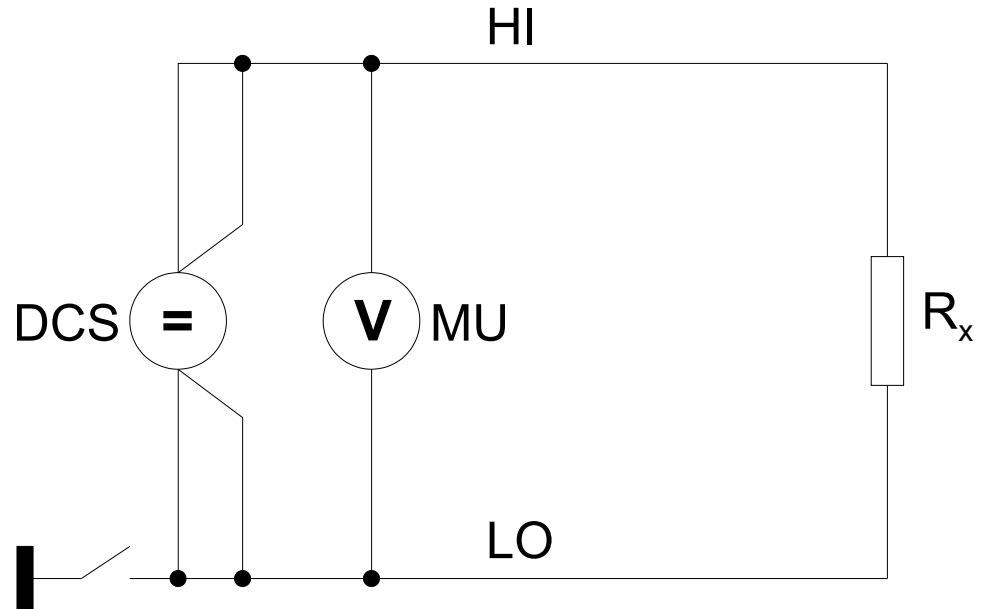
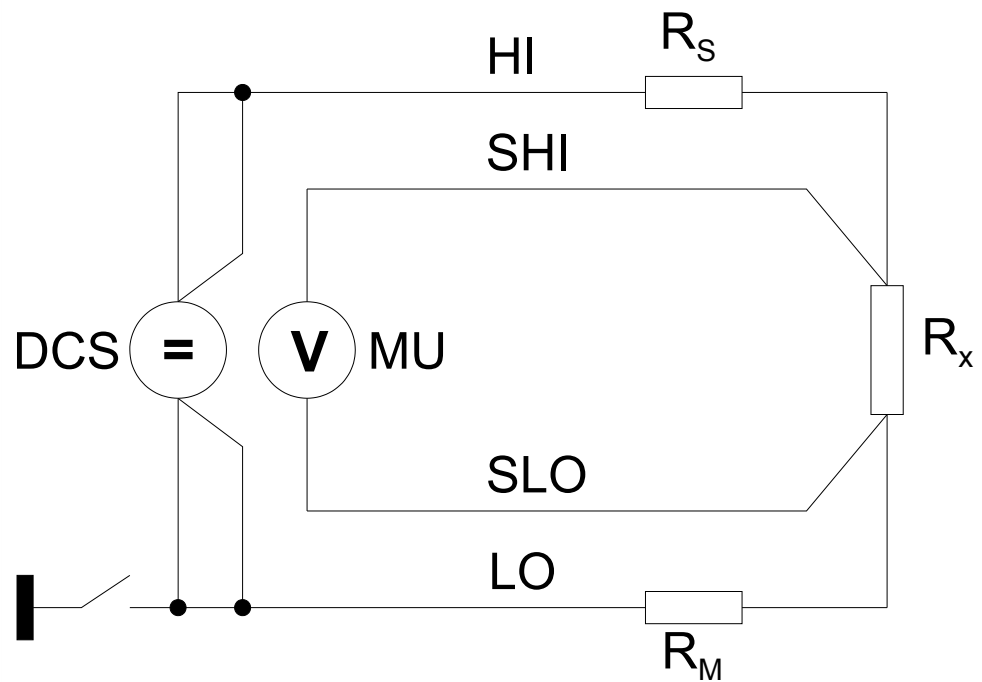
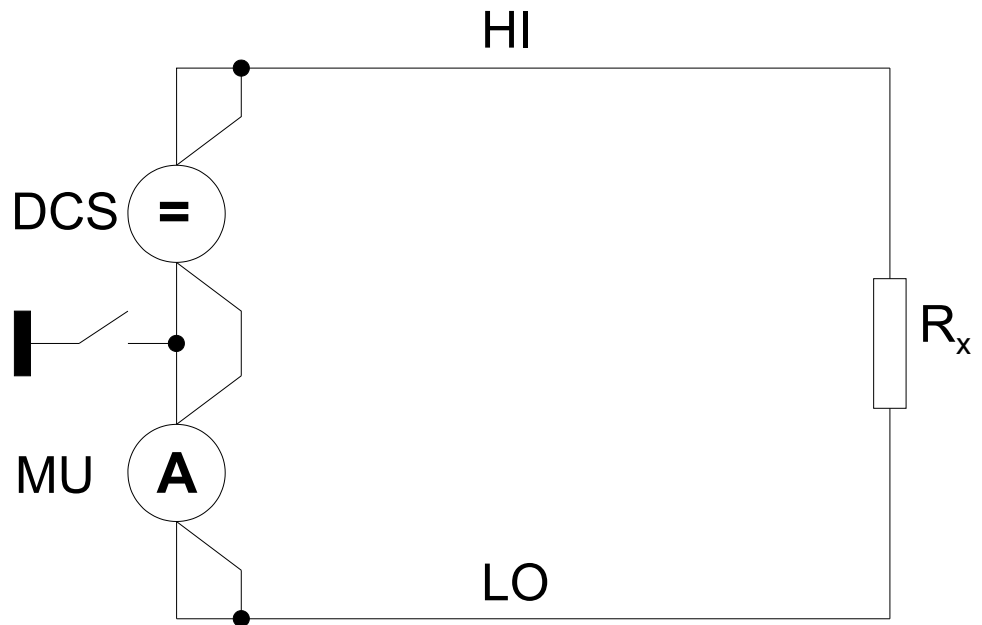
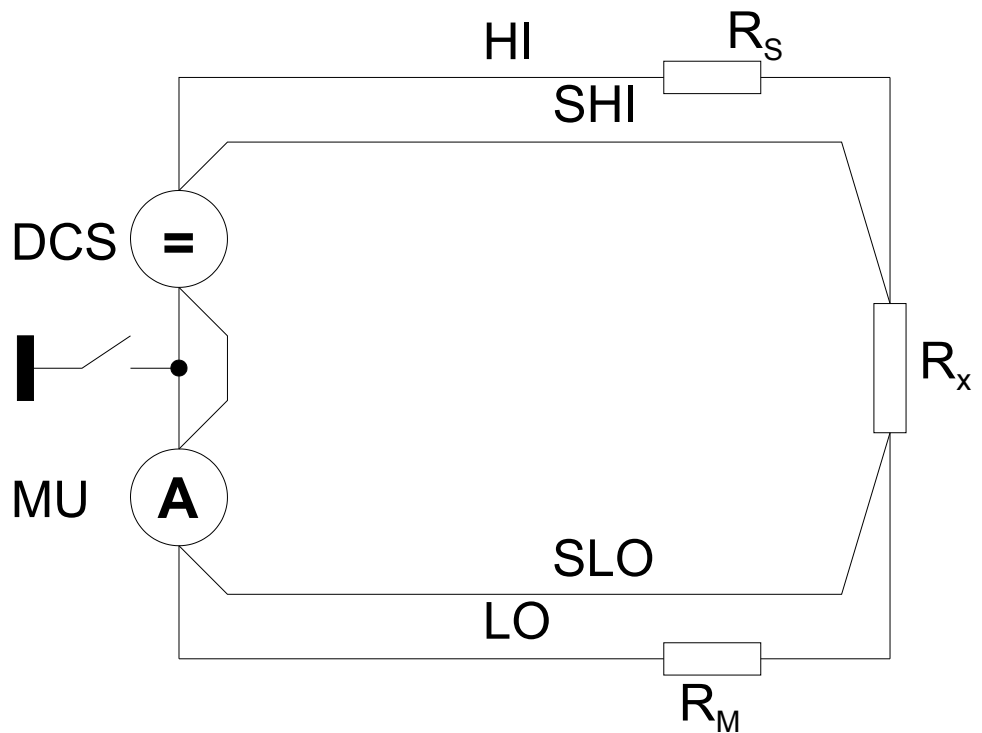

Figure 1-1: Cross-connection for 2-wire resistance measuring in Mode C
Figure 1-2: Cross-connection for 4-wire resistance measuring in Mode C
Figure 1-3: Cross-connection for 2-wire resistance measuring in Mode V
Figure 1-4: Cross-connection for 4-wire resistance measuring in Mode V
On this topic see also Figure 1-1 to Figure 1-6.
- 2- and 4-wire resistance measurements (Figure 1-1 to Figure 1-4)
On this topic see also Figure 1-1 to Figure 1-4
In this method, a constant current is applied and the voltage is measured. (see Figure 1-1 and Figure 1-2)
In this method, the voltage is applied and the current is measured. (see Figure 1-3 and Figure 1-4)